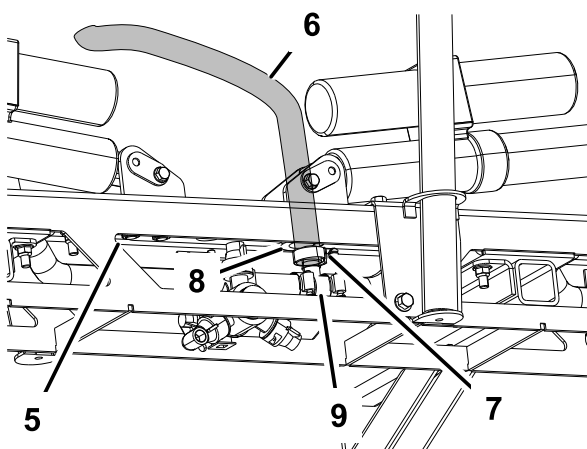

Figure 29
- Use liquid soap to coat the hose barb of the tee connections on both extension booms (Figure 29). Install the boom extension hose over the barb and secure it with a clamp.